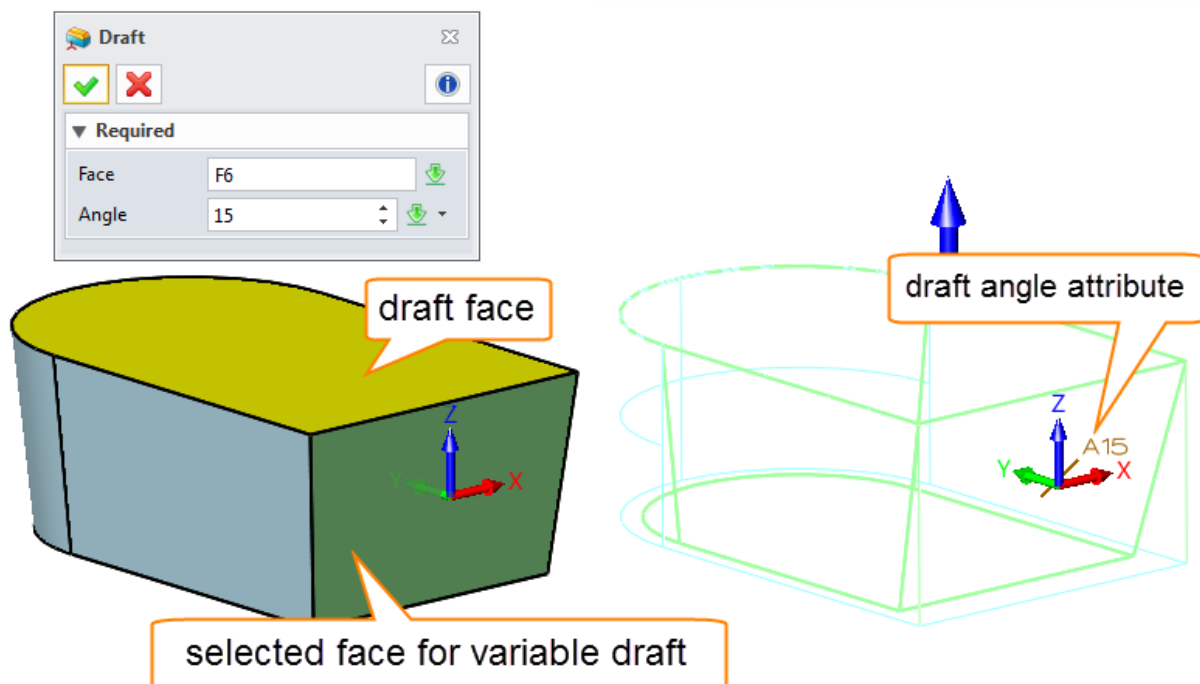

Figure49 Variable Draft
STEP 01 Refer to operations above to define draft required parameters. E.g. select yellow face, as shown in Figure49. Set the angle to 6 degree.